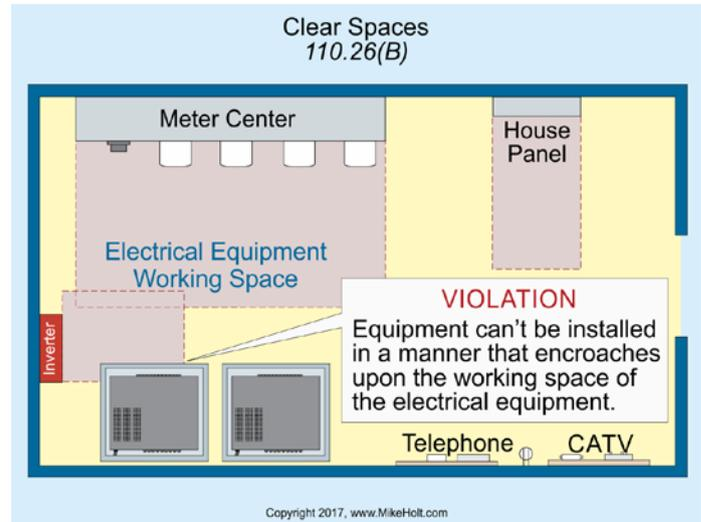

Figure 110-38
- Signaling and communications equipment aren't permitted to be installed in a manner that encroaches on the working space of the electrical equipment. Figure 110-38
**(C) Entrance to and Egress from Working Space.**
**(1) Minimum Required.** At least one entrance of sufficient area must provide access to and egress from the working space.